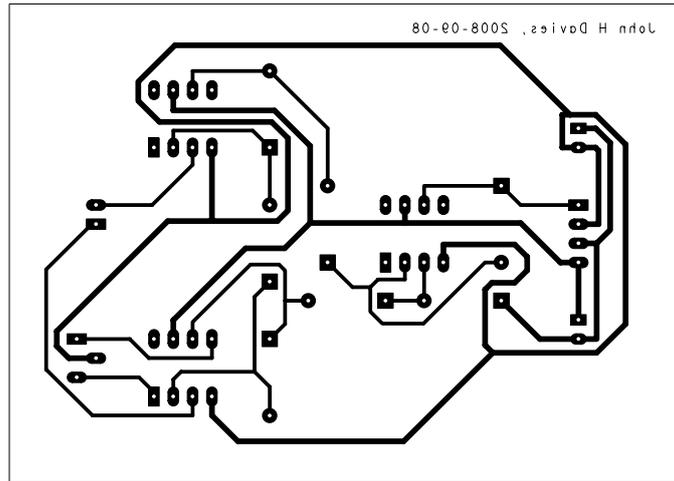

Figure 18. Printout for manufacturing a single-sided board with holes in the pads to guide the drill. This is at actual size.
9. Finally, choose File > Plot... as usual and you should get a beautiful picture with the board outline, etch and drill holes. Figure 18 on the next page shows my printout for the single-sided board.